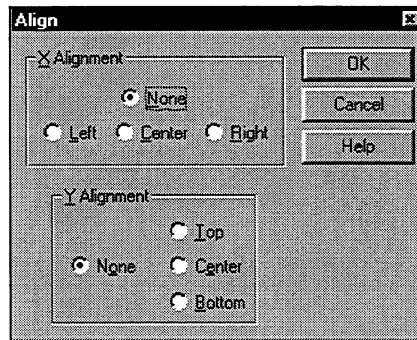

Figure 6-22. Align Dialog Box
3. Choose the Align command on the Arrange menu or the Align button. The Align dialog box opens, as shown in Figure 6-22.